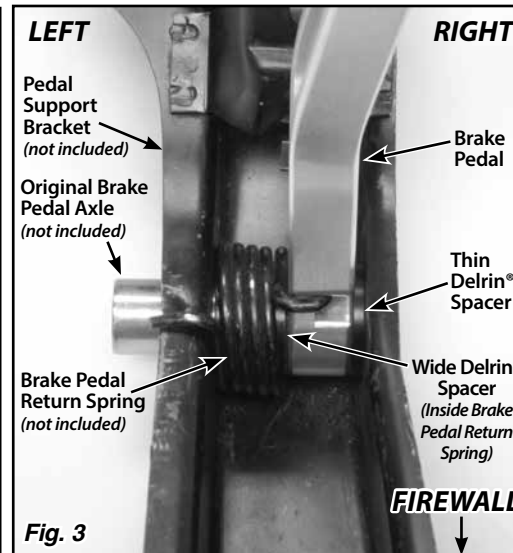

Fig. 3
Step 4: Use a large screwdriver or small pry bar to pry the top of the pedal to the left, and insert the thin Delrin® spacer into the gap between the top of the brake pedal and the right side of the pedal support bracket. Push the original brake pedal axle through the thin Delrin® spacer, and through the right side of the pedal support bracket. Fig. 3